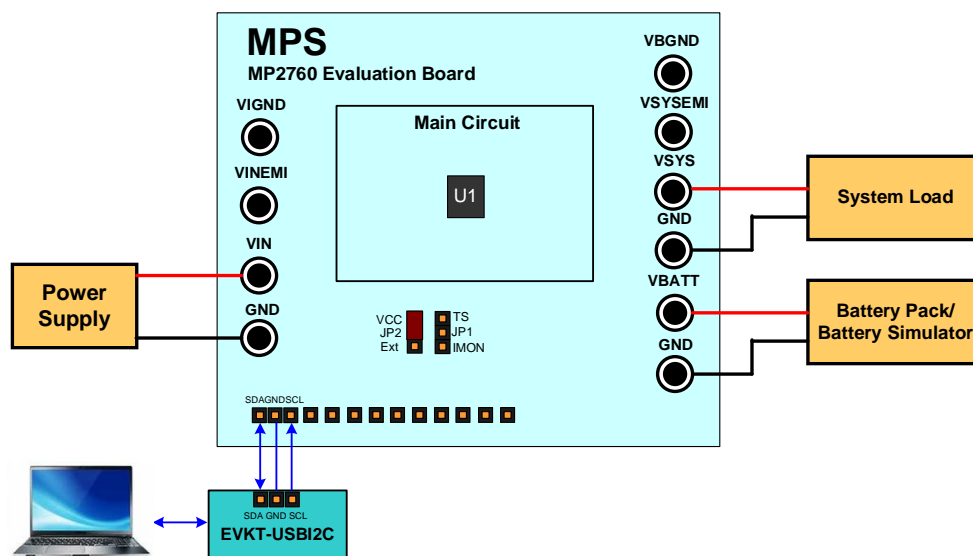

Figure 6: EVB to MPS I²C Communication Interface Wire Connection
2. Connect SCL, SDA, and GND (see Figure 6). If needed, refer to the MP2760 datasheet for further clarification.